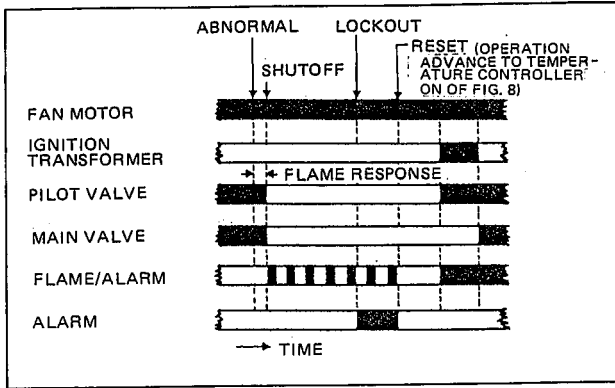

Fig. 10 Flame failure during burner is running
3. Flam failure while burner is running (see Fig. 10)